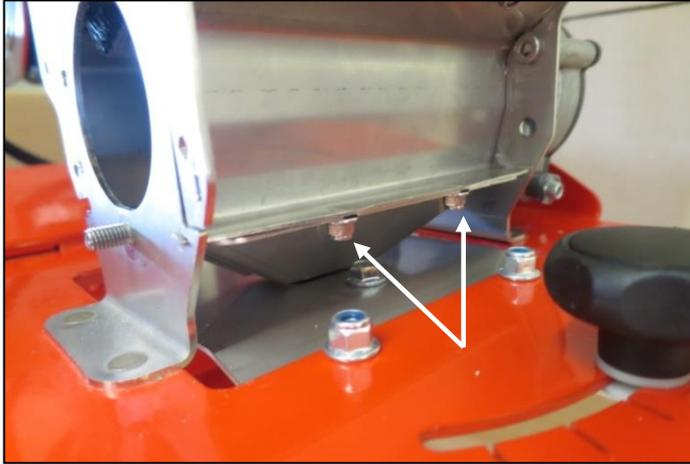
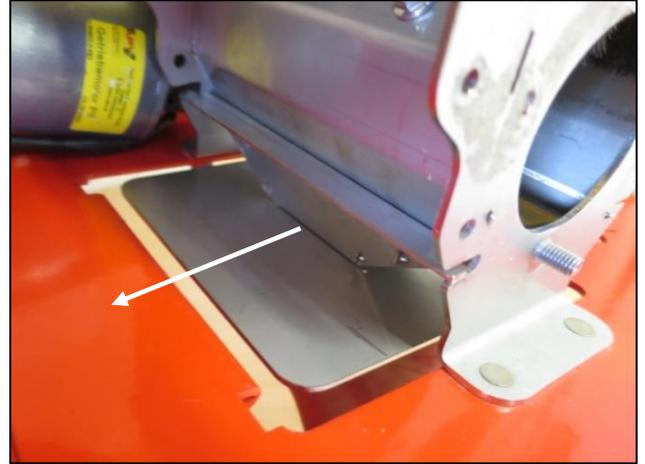
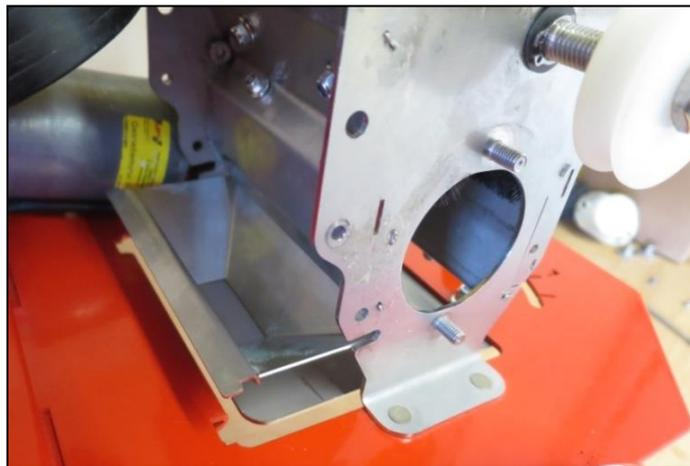

Fig.: 71
Fig.: 72
Fig.: 73
- Loosen the two nut marked in Fig.: 71 and push the funnel to the rear and out of the unit in the direction shown by the arrow (marked in Fig.: 72 and Fig.: 73).
- To remove the impact point adjustment with the adapter plate, loosen the flange nuts marked in Fig.: 73 and the black star knob screw.